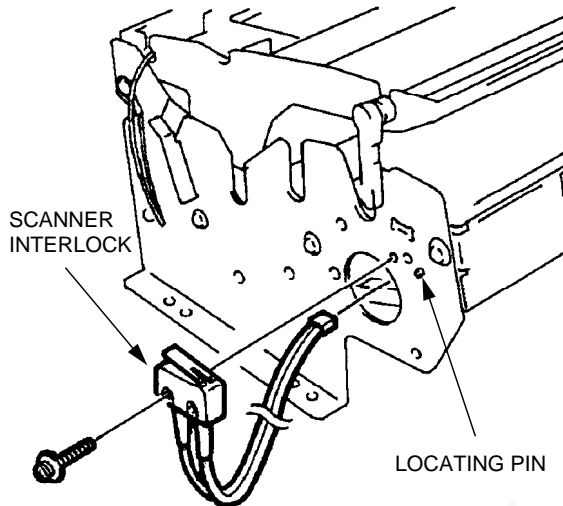

Figure 1. Scanner interlock
4. Remove the screw retaining the interlock to the chassis (figure 1).
*For proper operation, the scanner interlock must be installed onto the locating pin on chassis in the position shown (figure 1).*